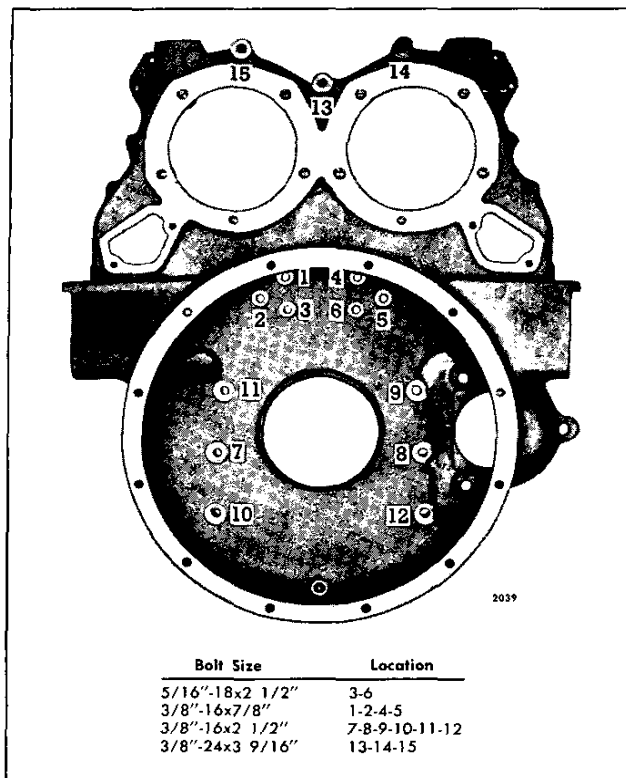
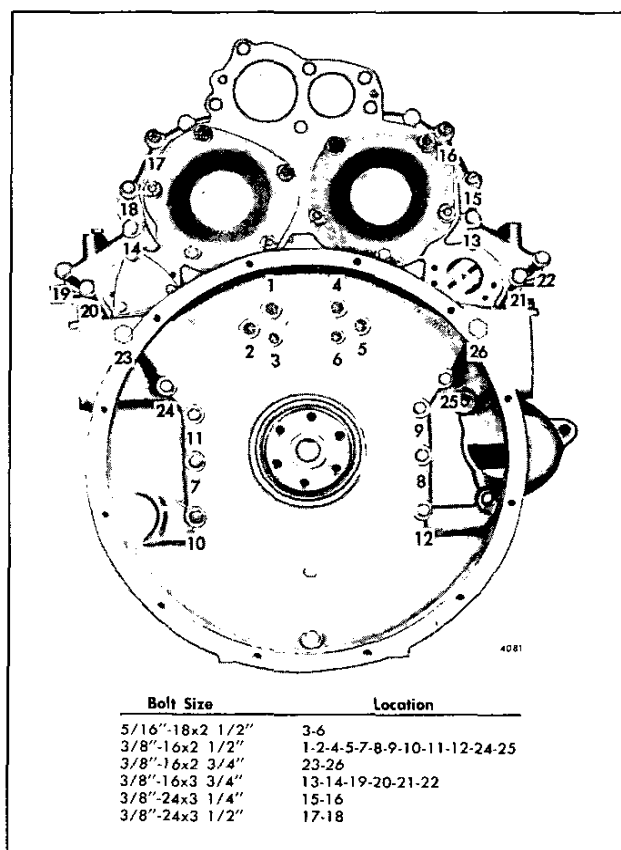

Fig. 3 - Flywheel Housing Bolt Sizes and Tightening Sequence (Operation 1)—In-Line Engine
Fig. 4 - Flywheel Housing Bolt Sizes and Tightening Sequence (Operation 1)—6V Engine
If the engine is equipped with a clutch housing, do not install the six bolts numbered 7 through 12 (Fig. 3) until the clutch housing is installed.
8. On an In-line right-hand rotation engine, start at No. 1 (No. 4 on left-hand rotation engine) and draw the bolts up snug in the sequence shown in Fig. 3. On V engines, start at No. 4 on a right-hand rotation engine (No. 1 on a left-hand rotation engine) and draw the bolts up snug in the sequence shown in Figs. 4 and 5.
NOTICE: Prior to Engine Serial Numbers 2D-903, 3D-011 and 4D-103, the bolts numbered 7 through 12 in Fig. 3 were all 5/16"-18 bolts and must be tightened to 19-23 lb-ft (26-31 N·m) torque.